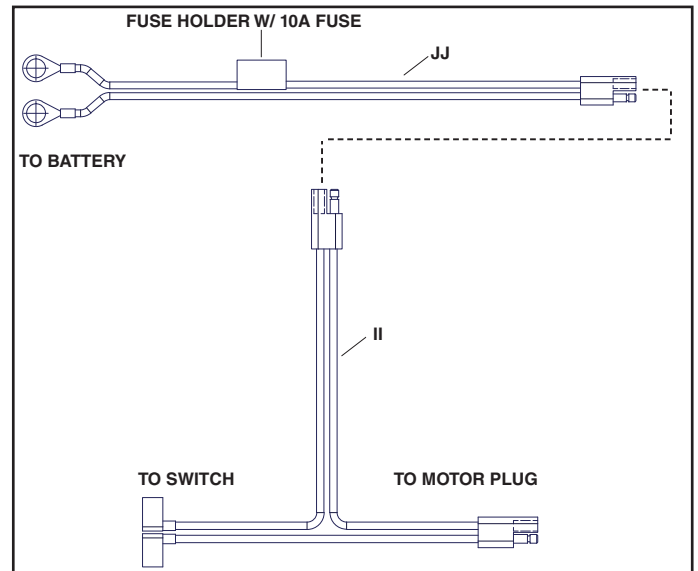

FIGURE 19
STEP 19: (SEE FIGURE 19)
- Plug the battery wire harness (JJ) to the wire harness (II). See figure to show which connectors.
- Attach ring terminals from the battery wire harness (JJ) to the correct battery terminals (Note: Red to Red and Black to Black).
- Use the nylon cable ties (DD) provided to safely secure the wiring away from hot engine parts, rotating parts and pinch points.